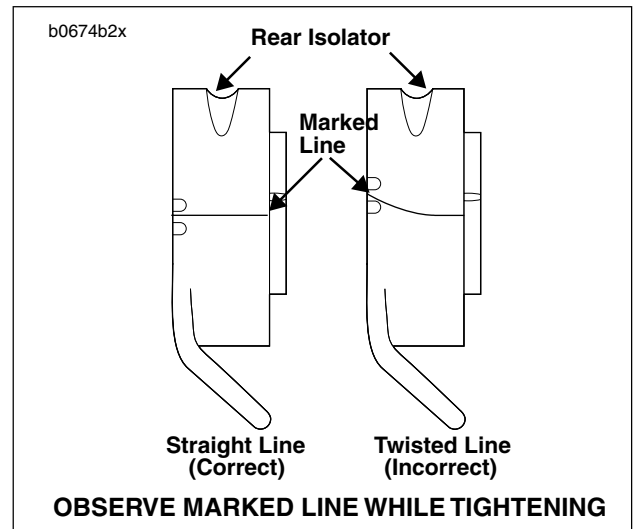

Figure 6-9. Isolator Alignment
- Observe seam on rubber isolator after isolator bolt is tightened. If seam twists, apply more **LOCTITE ANTI-SEIZE** to underside of isolator bolt heads. Failure to comply will result in damage to rubber isolators. See Figure 6-9.
- See Figure 6-9. After tightening TORX isolator bolt, verify that seam on isolator is perpendicular to swingarm mount block.